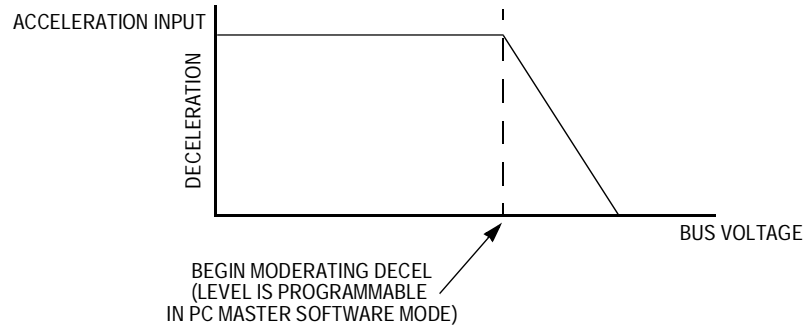

Figure 7. Deceleration as a Function of Bus Voltage
- **Automatic Deceleration Control** — When decelerating the motor, the MC3PHAC attempts to use the specified acceleration pin value for deceleration as well. If the voltage on the DC_BUS pin reaches a certain threshold, the MC3PHAC begins to moderate the deceleration as a function of this voltage, as shown in Figure 7. The voltage range on the DC_BUS pin from when the deceleration begins to decrease, to when it reaches 0, is 0.62 volts. In standalone mode, the DC_BUS voltage where deceleration begins to decrease is fixed at 3.85 volts (110 percent of nominal) where nominal is defined to be 3.5 volts. In PC master software mode, this threshold can be set to any value between 0 volts (0 percent of nominal) and greater than 5 volts (143 percent of nominal) and can be changed at any time.